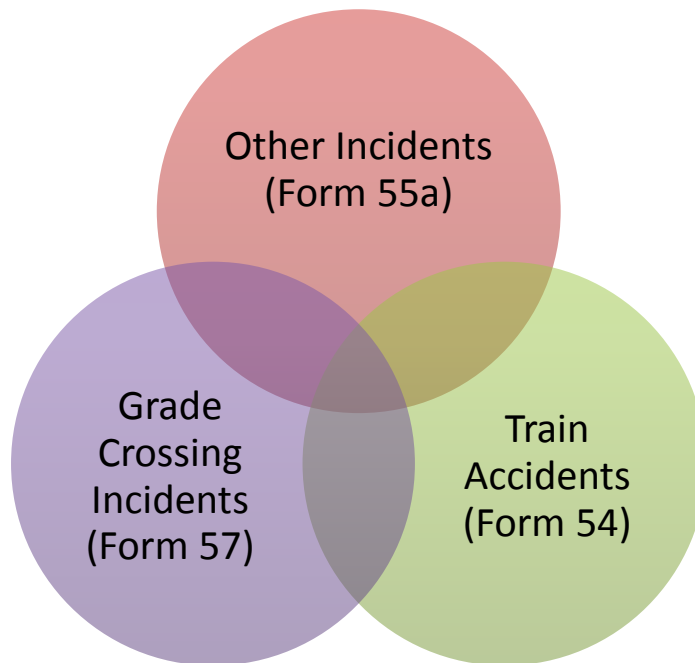

Figure 1: Accident/Incident Reporting Data Environment and Overlap
Using the following formula and order of operations, accidents and incidents can be computed in a way to eliminate double counting caused by the overlapping segments seen in Figure 1 above.
- a. This counts the entire orange circle for form 57s in Figure 1
- a. This counts the green circle for form 54s in Figure 1 while removing the overlap between it and the orange circle for form 57s (**Type=7**)
- a. This counts the blue circle for form 55a's in Figure 1 while removing the overlaps between it and the other two circles (**cas57=Y** and **cas54=Y**)